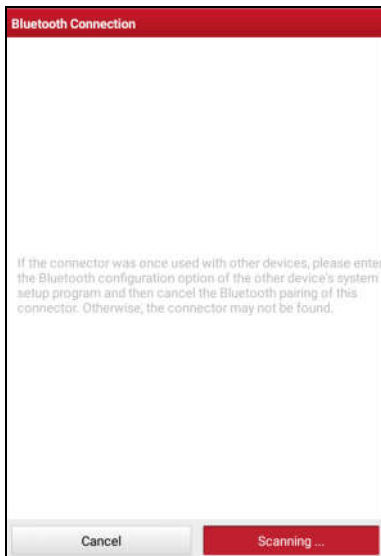
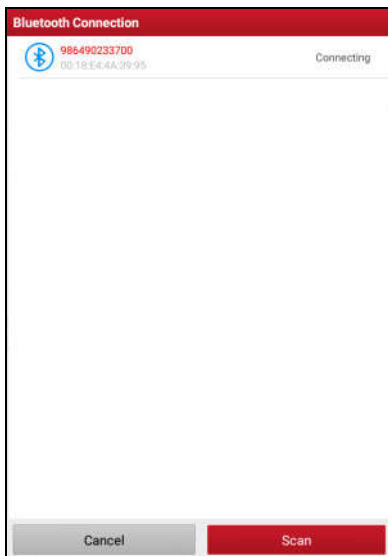

Fig. 4-19
Fig. 4-20
2. Check the box “Use WIFI communication mode”, the system will search for VCI module automatically. See Fig. 4-19 & Fig. 4-20.